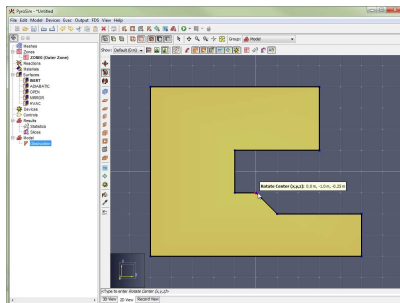

Figure 93. Click rotation center
3. Single-click to specify the rotation center (Figure 93).